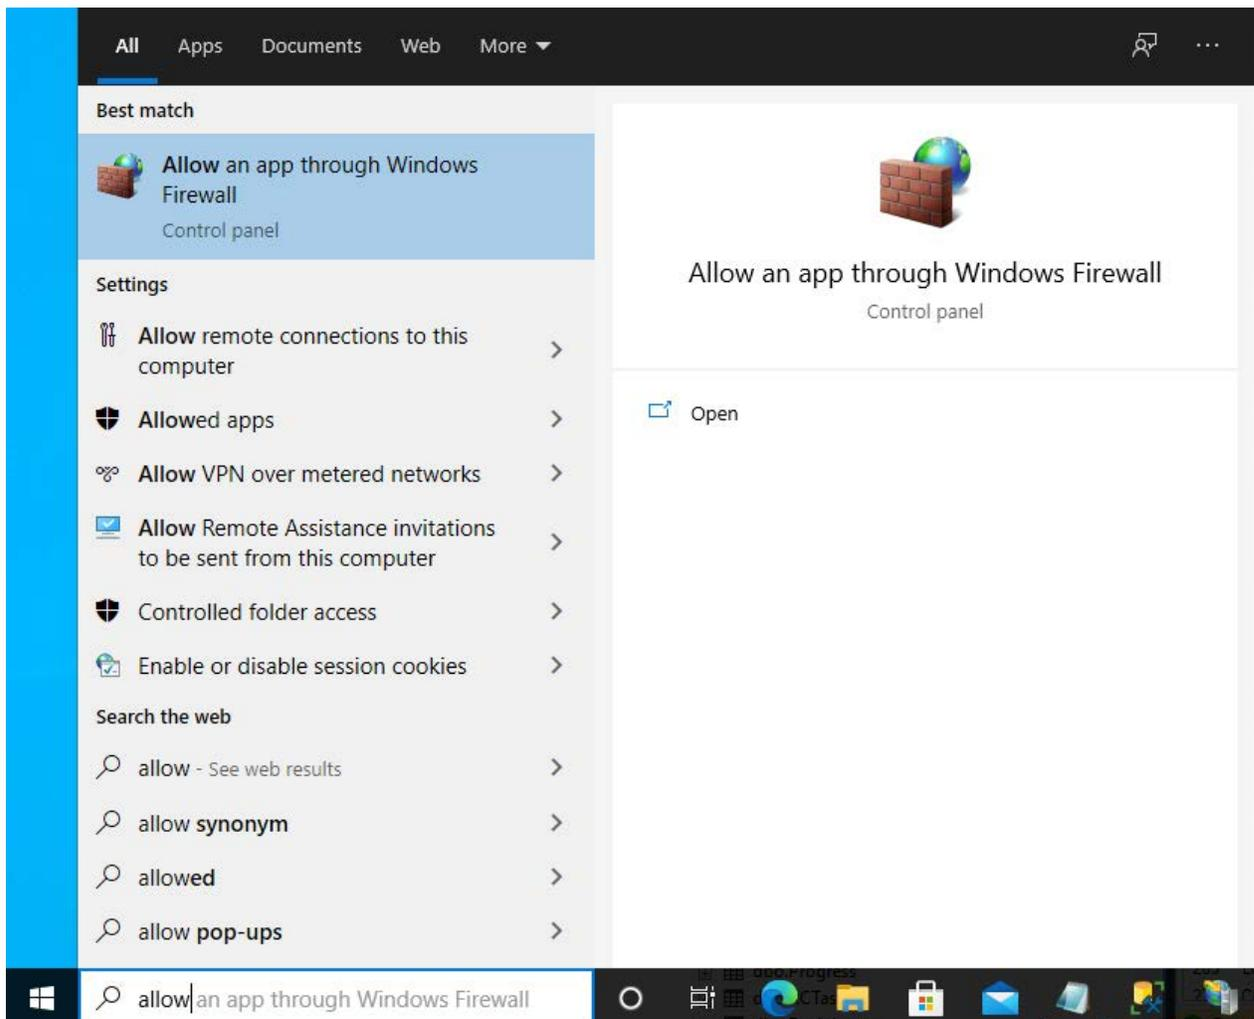

Figure 11: Start menu > Allow an app through Windows Firewall.
9. Click the Start menu, and type **Allow an app**. Open **Allow an app through Windows firewall** (Figure 11). The Allowed Apps page displays.